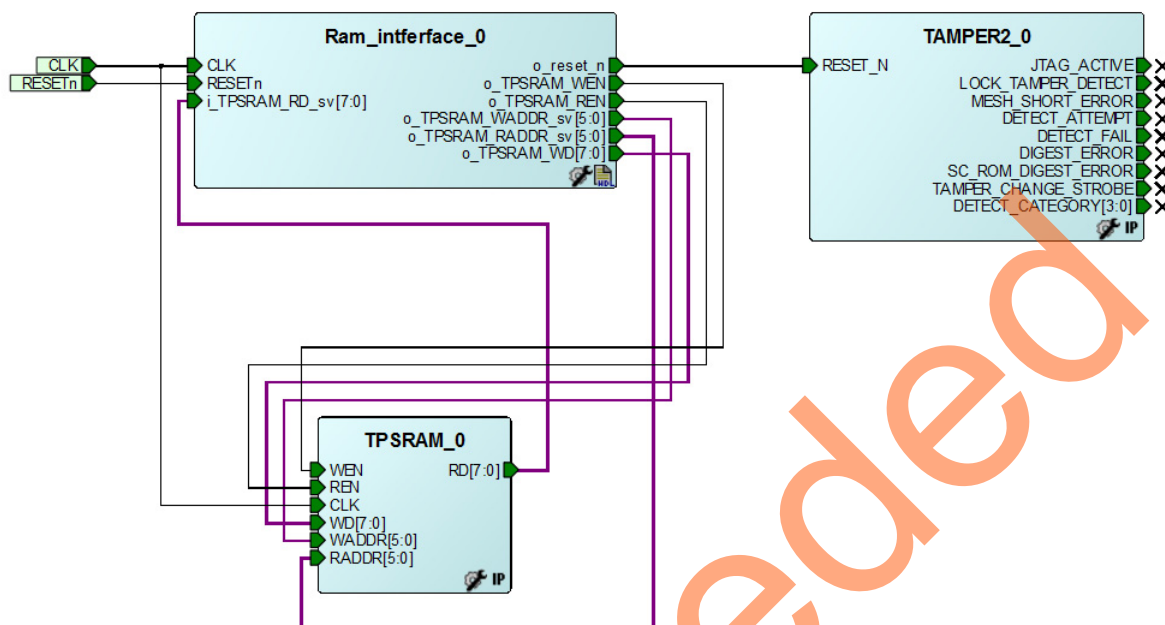

Figure 30 • Dev_Restart_after_ISP_blk SmartDesign
- Make the connections for **Tamper Macro**, **FSM**, and **TPSRAM**, as shown in Figure 30.